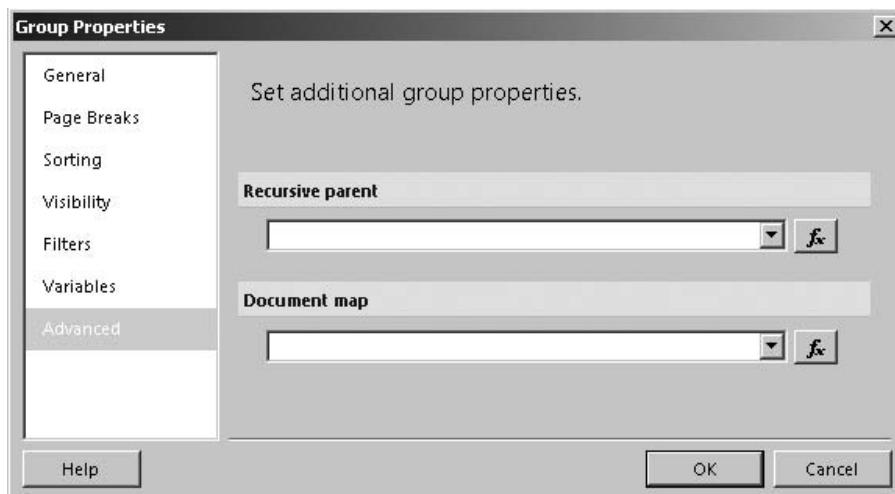

Figure 16-23 The Advanced page of the Group Properties dialog box
59. Select the Advanced page. This is shown in Figure 16-23. The Document map item on this page enables us to assign expressions to the Document map label—sort of a table of contents for the report. Currently, a document map is not being created for this report.